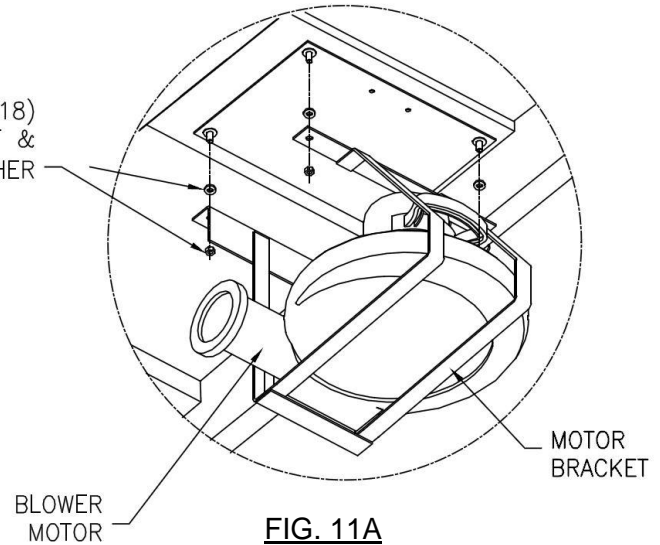

FIG. 11A
- Mount Motor/Blower (Figure 11A).